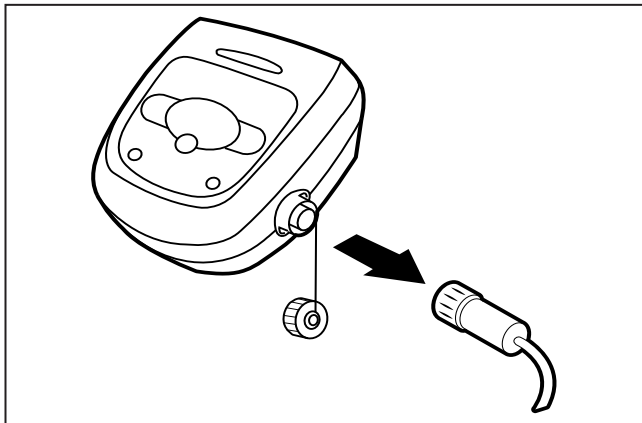

Figure 17. Unplug
3. Unplug power to the cleaner at the control box (Figure 17).